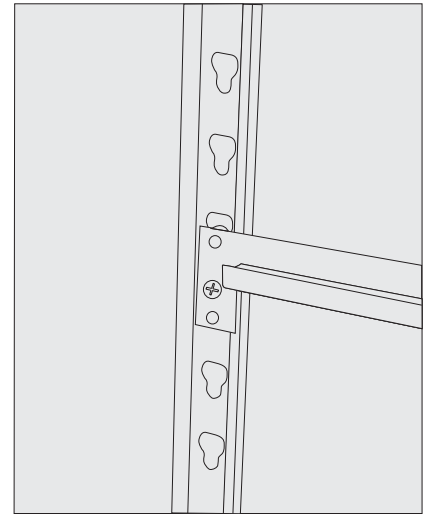

Figure 1
1. Starting from the bottom, install shelf supports in the front and back (4) keyhole slots (6") up from the Quik-Base. Secure the back shelf support to the posts using a Tek screw through the holes in the ears of the shelf support (see figure 1).